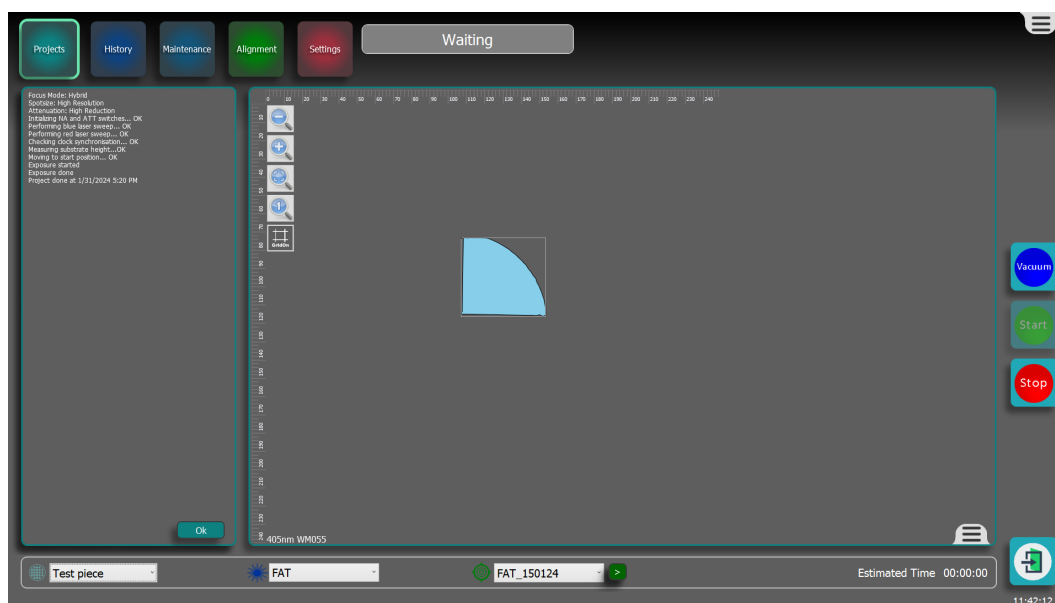

Figure 3-32 View the scanned polygon shape
14. To view the scanned substrate, select **Projects** in the top bar, see in **Figure 3-32 below**.